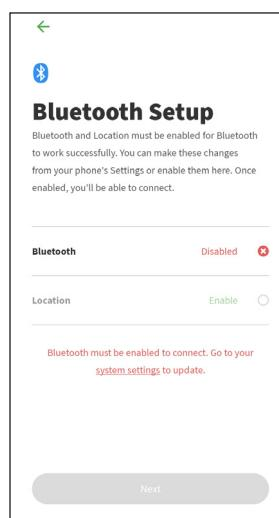

Figure 160 - Enable Bluetooth
**⚠️ HELP:** If you experience difficulty enabling Bluetooth in app, go to your device settings to manually enable Bluetooth (Figure 160).